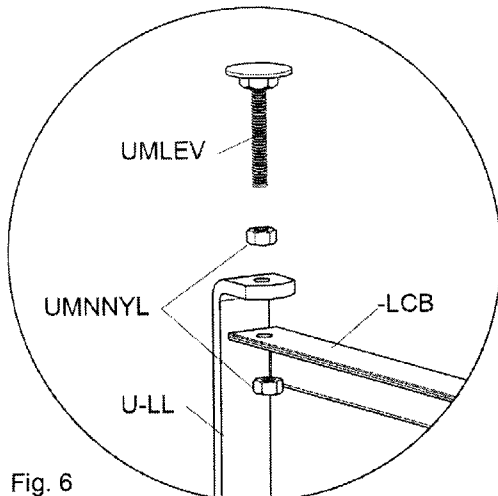

Fig. 6
14. Attach leg connector bar (-LCB) using the adjustable leg levellers (UMLEV) and two nylon insert locknuts (UMNMYL) as shown in figure 6.